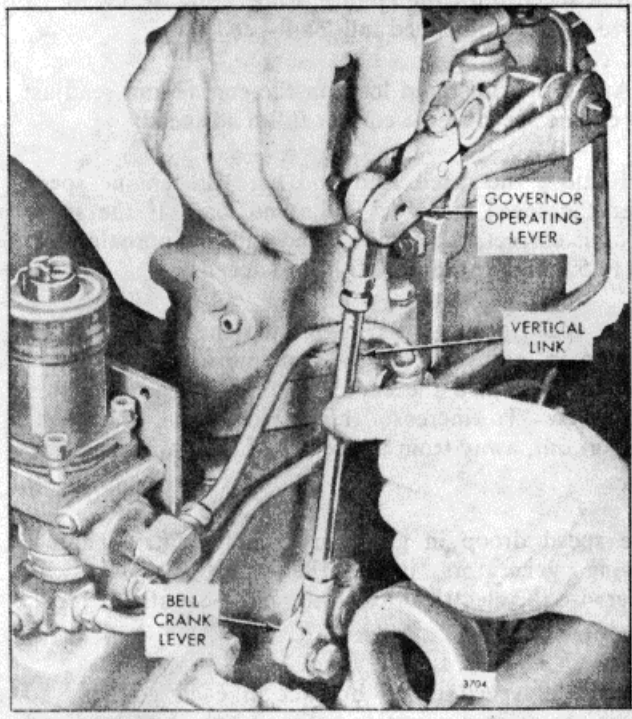

Fig. 5. - Adjusting Vertical Link
15. Adjust the length of the vertical link so that the bolt holes of the levers and the centers of the rod end bearings are lined up (Fig. 5).